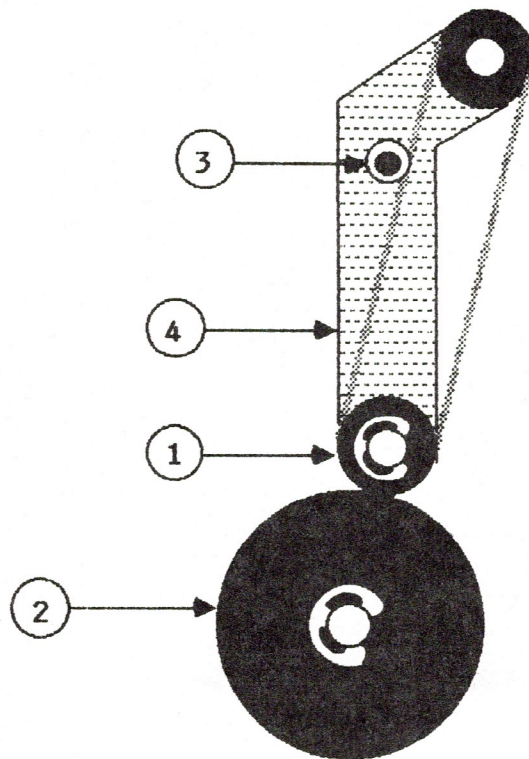

FIGURE 3
4. Remove the E-ring and the black plastic washer from the lower drive-belt gear (Figure 3, #1)
A new timing belt should be adjusted so that there is neither binding nor backlash: that is, the gears that drive the belt (Figure 3, #1 and 2) should turn easily but without any appreciable free play between their teeth. This adjustment should also be performed if any Forms Tractor shows symptoms of binding or backlash such as uneven line feeding (poor vertical registration) or failure to advance paper.